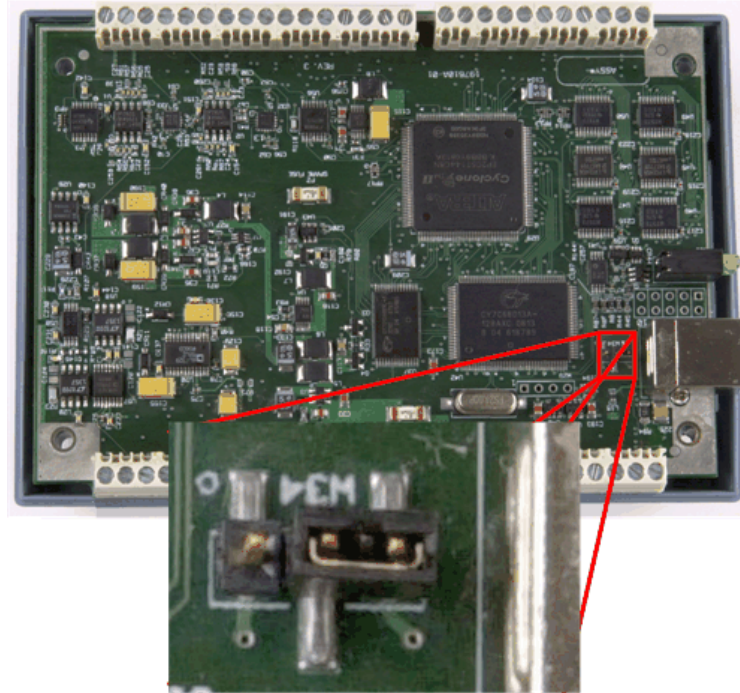
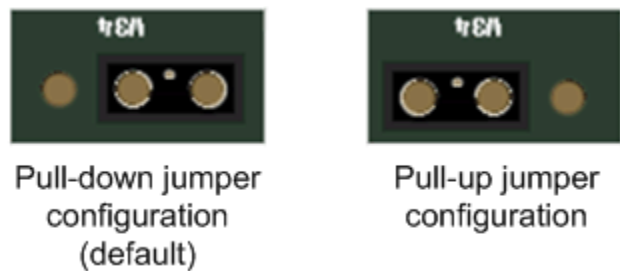

Figure 9. Location of W34 jumper (default pull-down setting shown)
Figure 10. Pull-down and pull-up configurations
5. Set the jumper to either pull-up or pull-down (see Figure 9 and Figure 10).